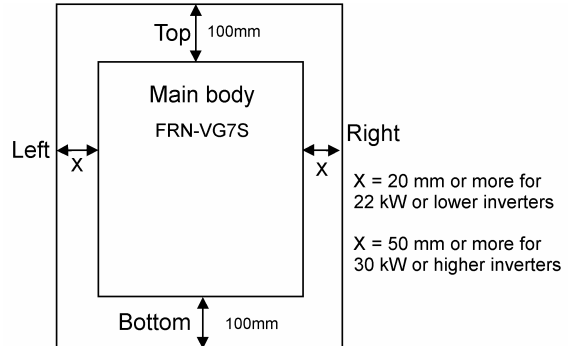

Figure 2-2-1
- (2) The inverter generates heat during operation. Reserve a space as shown in Figure 2-2-1 to ensure a sufficient flow of cooling air. The heat is radiated from the top. Do not install the inverter under any unit susceptible to heat.